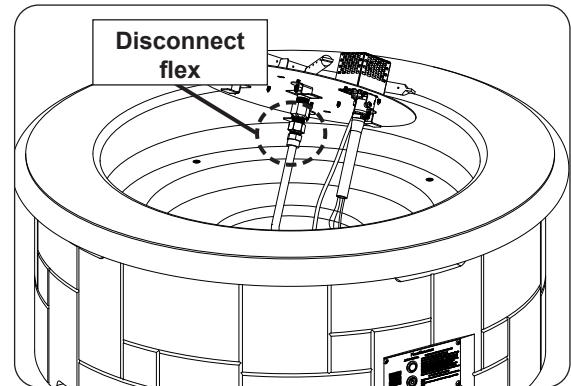

Fig. 25-3 Disconnect flex connector
3. Disconnect flex connector attached to the burner assembly (see Fig. 25-3). Store the burner in a safe location.